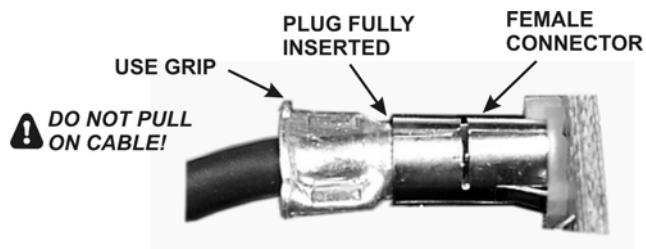

Figure 6. TMP Cable Connectors.
3. Unplug the coaxial cables leading to the K144XV module and set the module aside. The coaxial cables have friction-fit TMP connectors that simply pull out of the sockets (see Figure 6 on pg 9). Pull on the metal connector grips. Do not pull on the coaxial cable. If needed use your needle-nose pliers to grasp the metal grips on the connectors.
☐ Temporarily remove the coaxial cables at J2 and (if present) J1 on the KREF3 board. Handle the connectors by the grip (see Figure 6). Do not pull on the black coaxial cable.
☐ Plug the TMP connector on the end of the coaxial cable you installed earlier into the connector on the KREF3 board that extends through the front panel shield. Handle the connector by the grip using your needle-nose pliers. Be sure the connector is fully seated (see Figure 6 on pg 6).